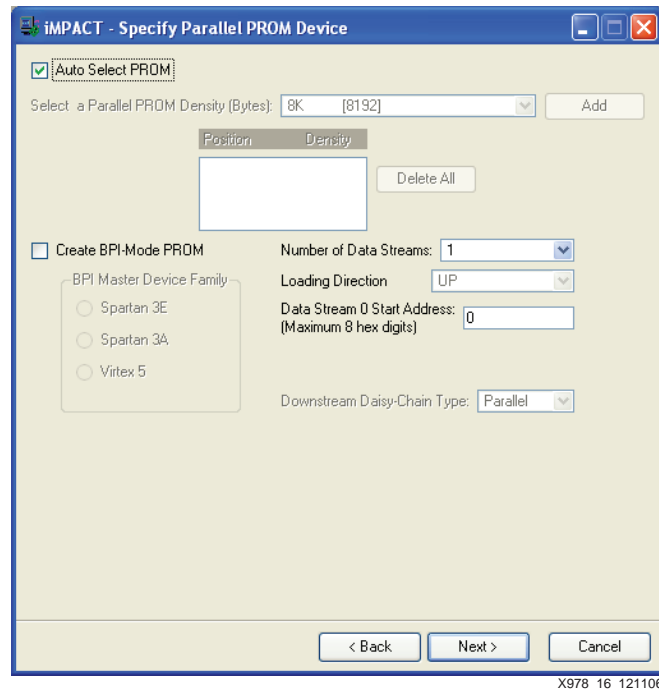

Figure 16: Specify Parallel PROM Device Dialog Box
- In the Specify Parallel PROM Device dialog box, shown in Figure 16, click the **Auto Select PROM** check box. Ensure the **Number of Data Streams** is set to **1** and the **Data Stream 0 Start Address** is set to **0**. Click **Next**.